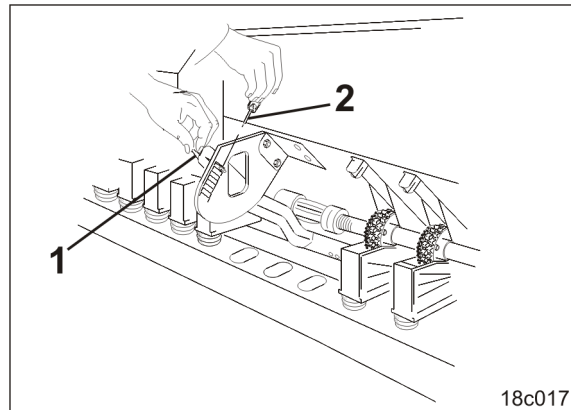

Fig. 144
1. Set the bottom flap lever (Fig. 144/1) in the group of holes at the value from the table (see page 64).
2. Secure the bottom flap lever with a linch pin (Fig. 144/2).